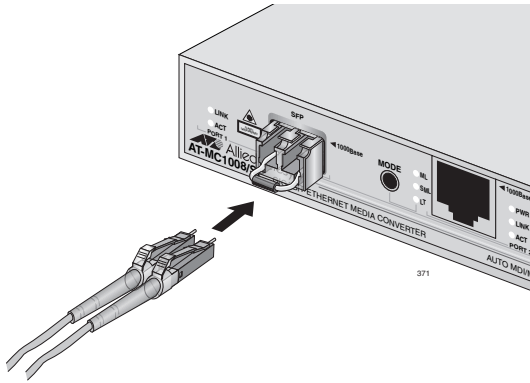

Figure 20. Connecting to the SFP Transceiver
2. Connect the appropriate optical cable to the transceiver, as shown in Figure 20.
- The SFP transceiver consists of two connectors in one slot, as shown in Figure 20. Each connector connects to a separate fiber strand. One is for receiving data and the other is for transmitting data. When connecting a fiber optic cable to a GBIC transceiver, be sure that the receiver fiber connector is connected to the transmitter connector on the remote end-node, and the transmitter fiber connector is connected to the receiver connector on the remote node.